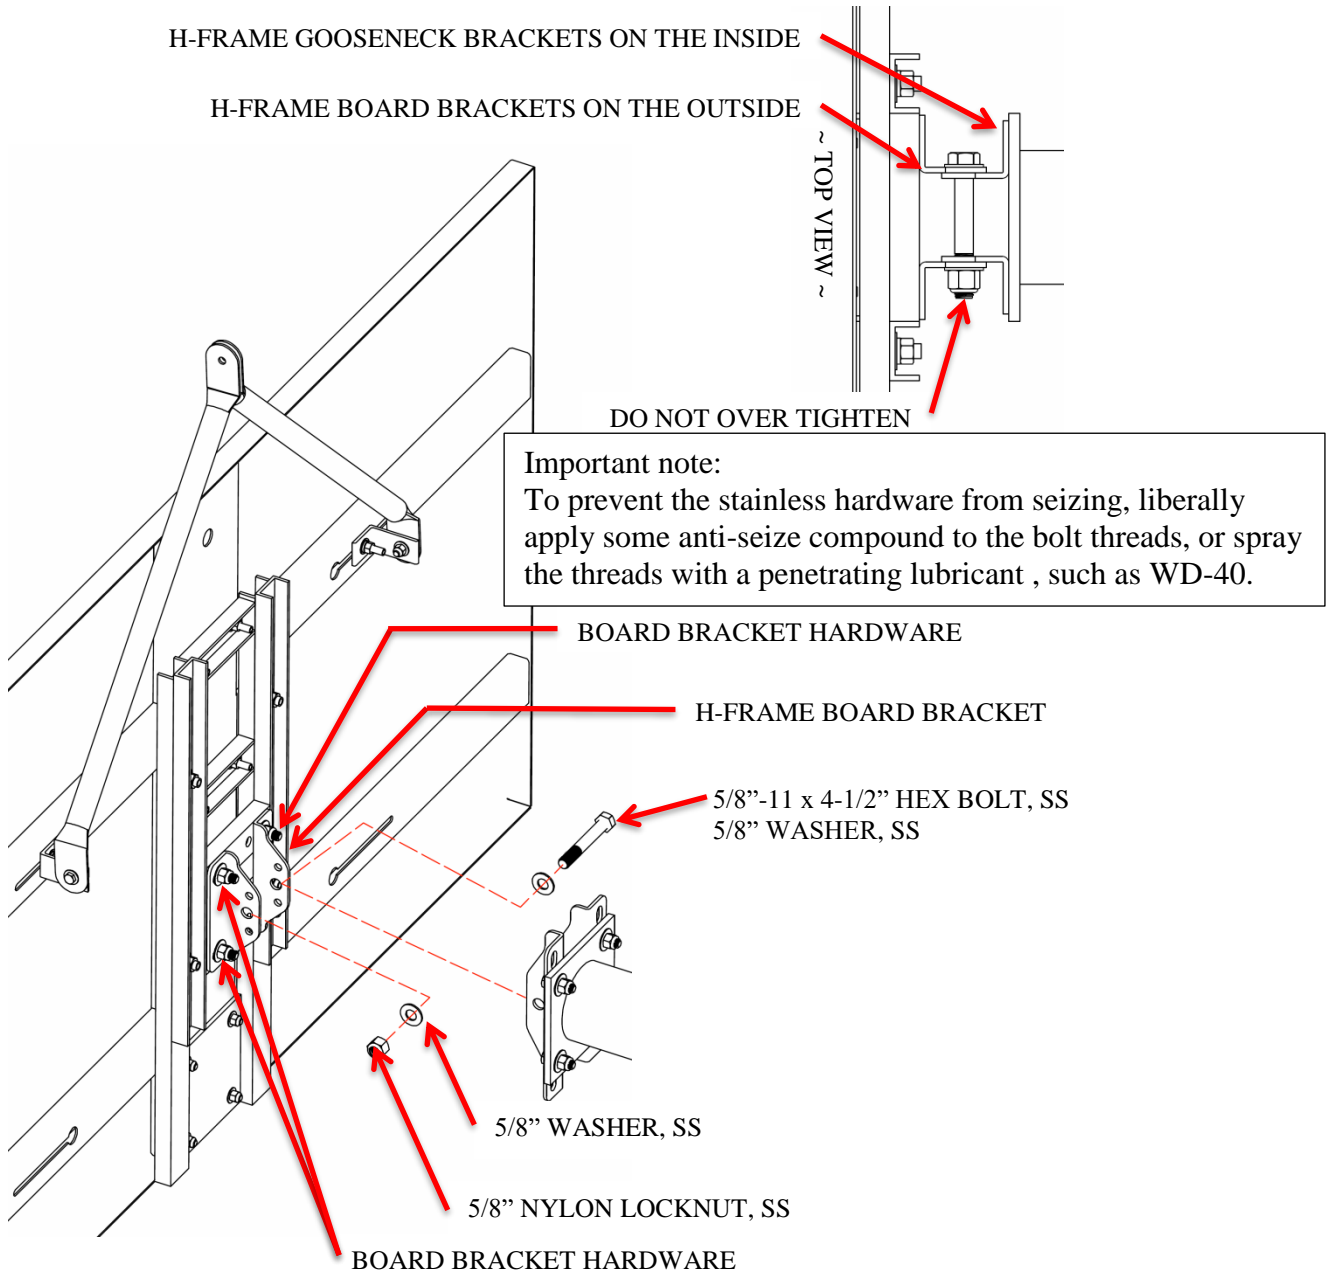

Figure 8
2. Once the H-Frame board brackets is on the H-Frame gooseneck bracket. Tighten the board bracket hardware (Figure 8).